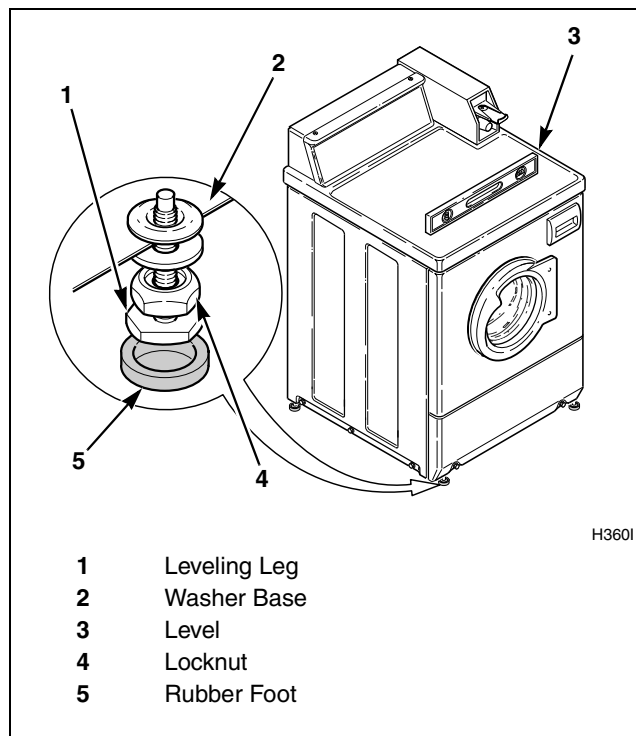

Figure 7
**NOTE: Level must rest on raised portion of top panel. Refer to *Figure 7*.**